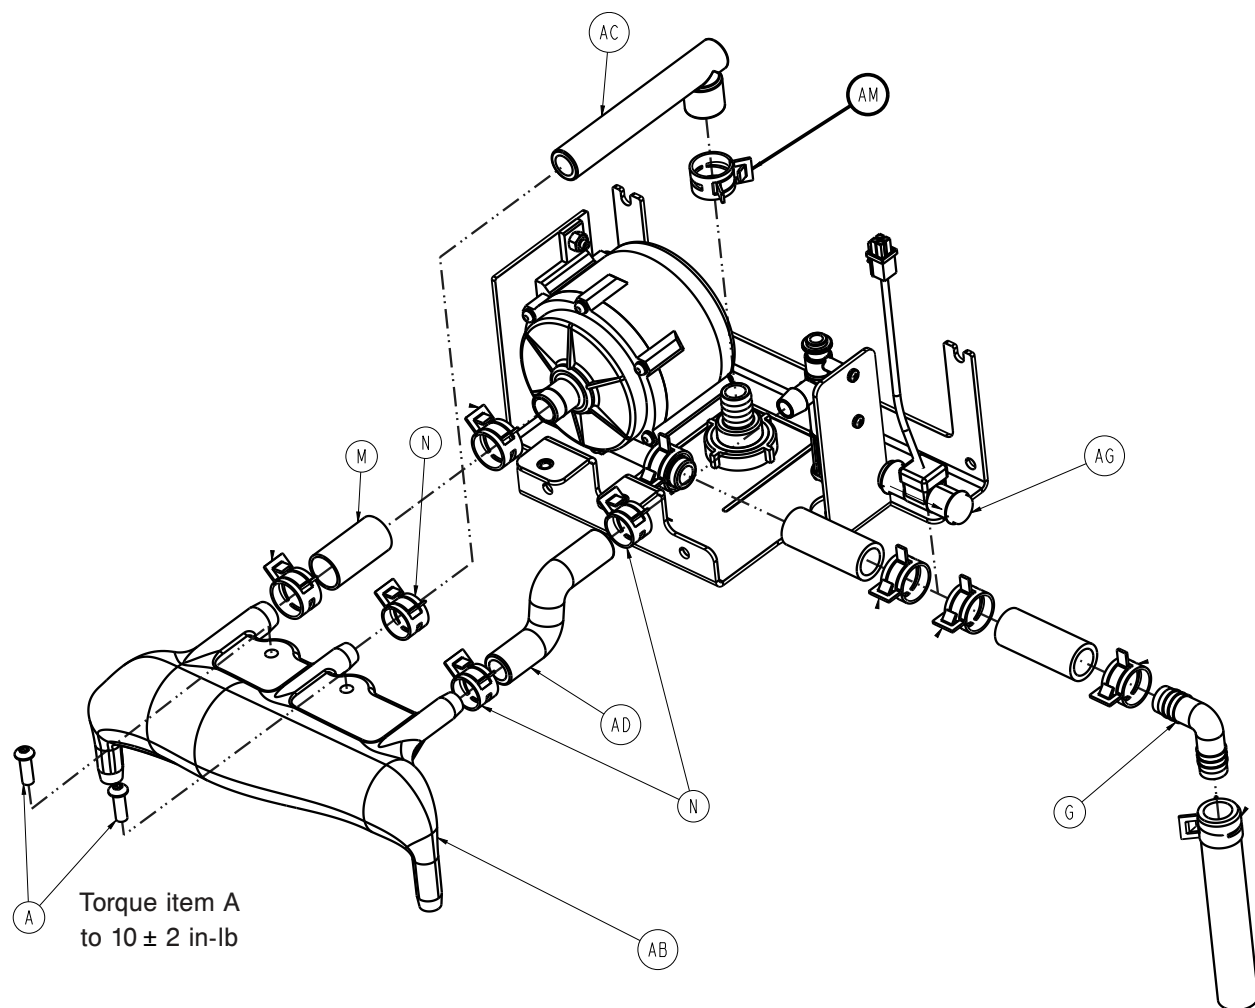
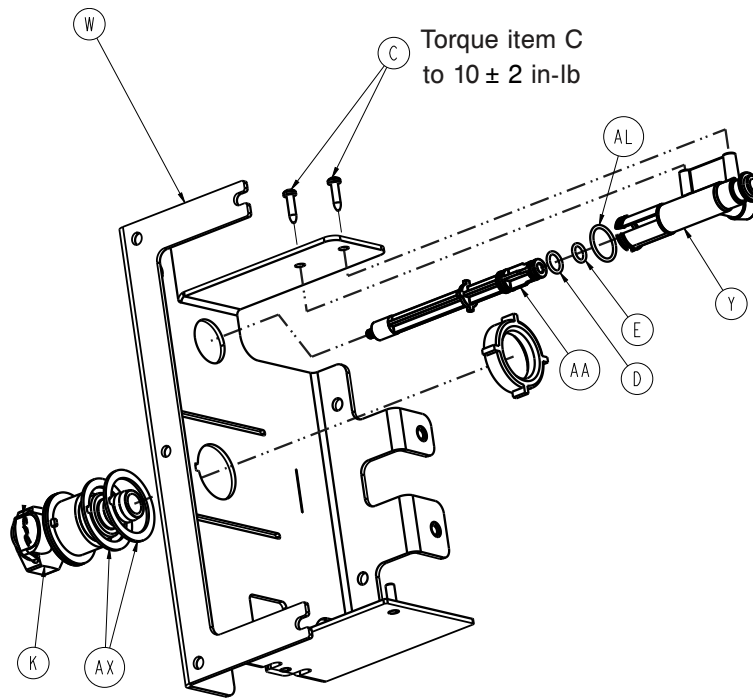

Figure 16 – Hose clamp
Figure 17 – Coupling
3. Using needle nose pliers, squeeze the hose clamp (AM) (Figure 16) that secures the tube to the coupling (K) (Figure 17).